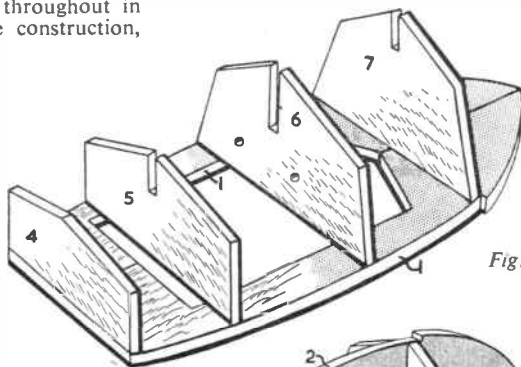

Fig. 2
The addition of the transom (piece 4), and bulkheads (pieces 5, 6 and 7) are shown in Fig. 2, being positioned according to the dotted lines on piece (1) on the design sheet. Note the two holes which are provided in piece (6) through which will pass the wires connecting the battery to the motor.